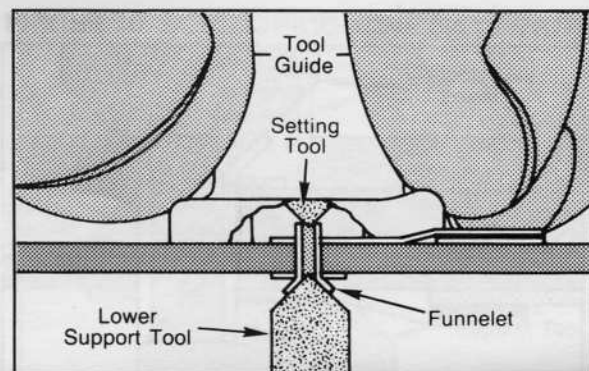

FIGURE 13. POSITIONING OF TOOL GUIDE
STEP 11—Slide Tool Guide (Advanced and Master Kits only) down against the Printed Circuit Board and hold firmly into place (see Figure 13). (**NOTE:** The Tool Guide will maintain alignment between Setting Tool and Funnel/Eyelet barrel).